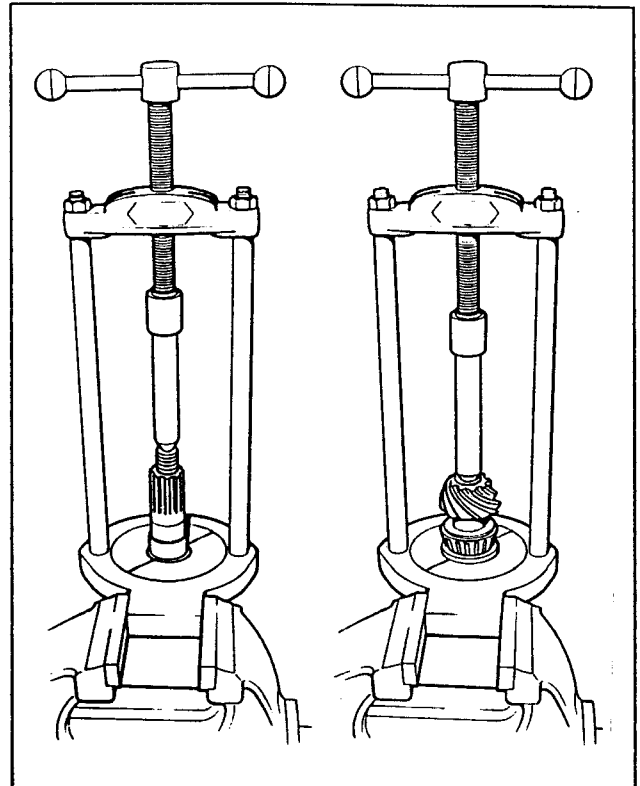

Fig. 14 Removing/replacing the pinion head bearing
20. Remove the pinion head bearing cone (Fig. 14) using the screw press MS 47 and adaptors FX 4279 ensuring the collars on the puller adaptors are correctly located over the bearing cone.
37. Fit the pinion head bearing cone (Fig. 14) onto the pinion using the screw press MS 47, adapters, and pressure ring FX 4279.